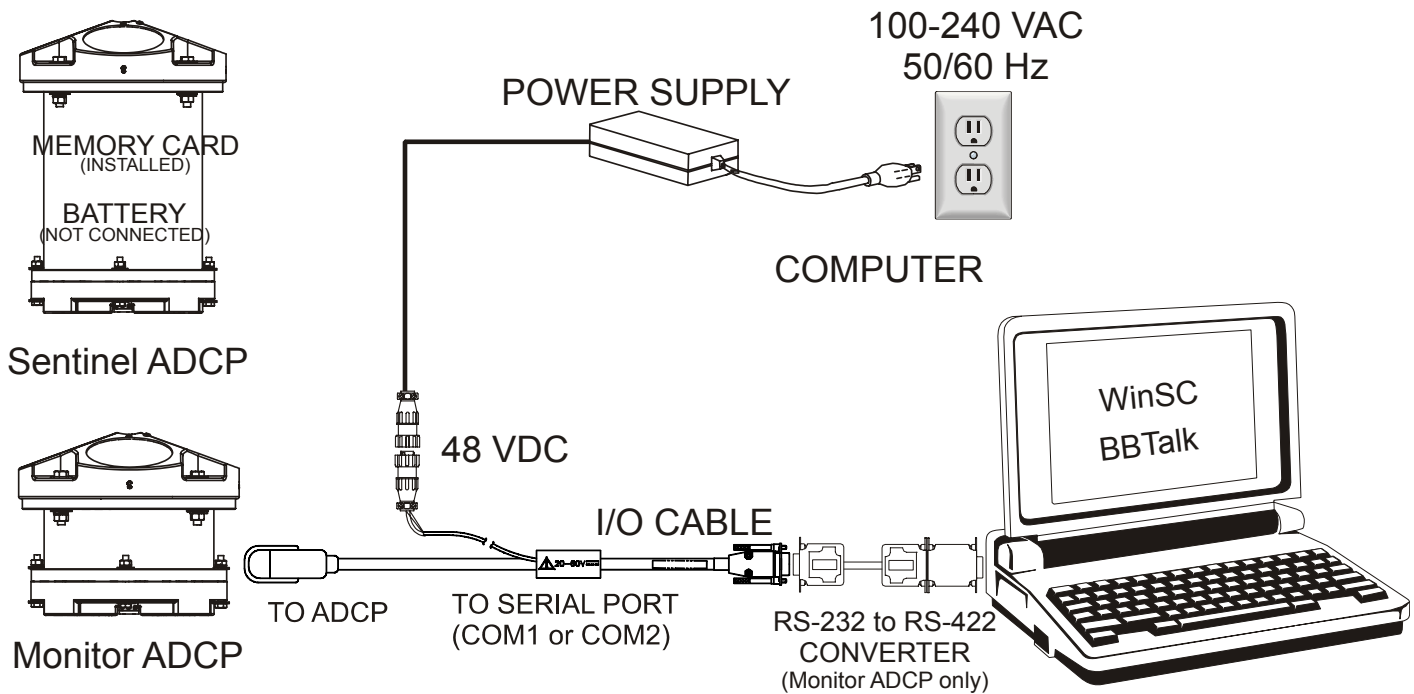

Figure 2. Workhorse Connections
- a. Connect the Workhorse as shown in Figure 2. Place the Workhorse in a bucket of water (enough water to cover the transducer head). If the Workhorse is not placed in water, some of the tests will fail (but not harm the ADCP).